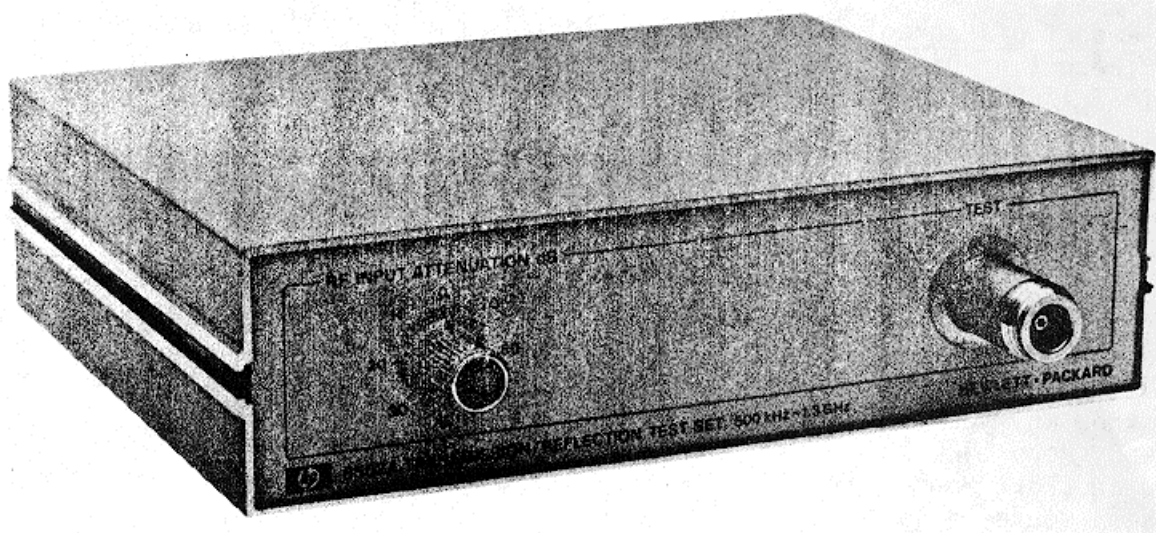

Figure 1. Model 8502A Transmission/Reflection Test Set
3. This Operating and Service manual applies to the Hewlett-Packard Model 8502A Transmission/Reflection Test Set (Figure 1). It contains information necessary to operate, test, and service the HP Model 8502A